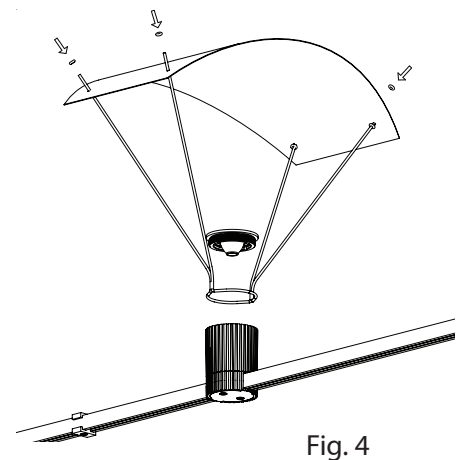

Fig. 4
3. Place another O-Ring on each arm and adjust the o-rings to set the desired reflector position. (Fig. 4)